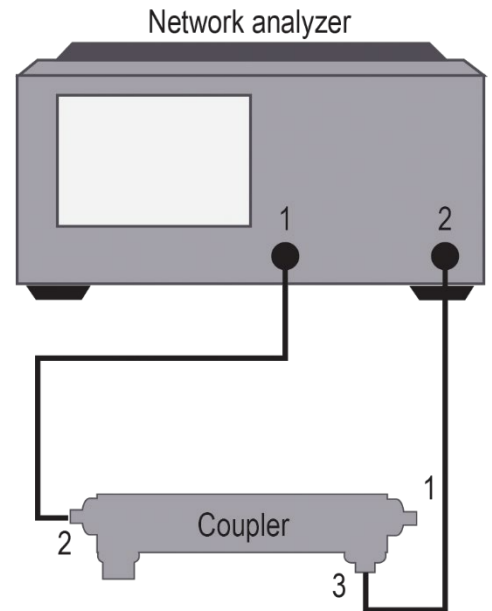

Figure 12. Equipment setup using network analyzer with coupler port 2 and port 3
8. Reverse the coupler as shown in Figure 12. Measure and record **directivity** $(S_{31}/S_{21})^1$.